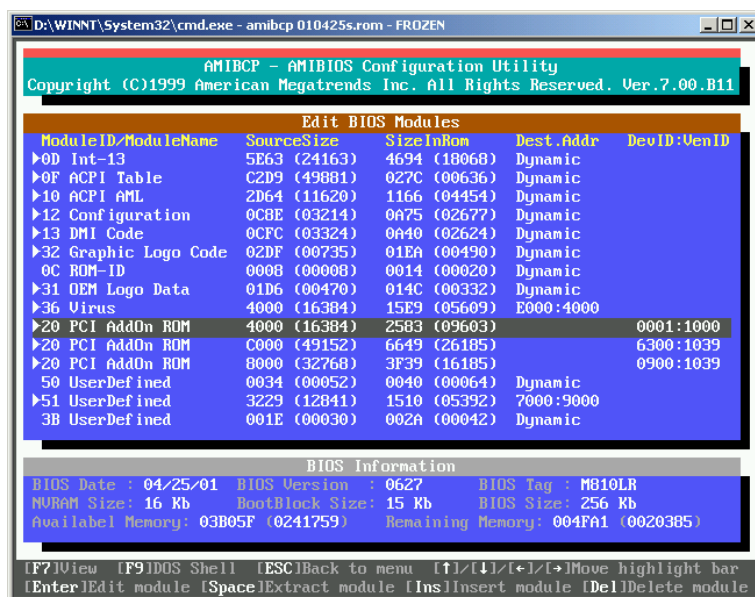

FIGURE 5.2: AMI BIOS module list example
- Select "Edit BIOS Modules", and you should see a list of all the modules, for an example see Figure 5.2